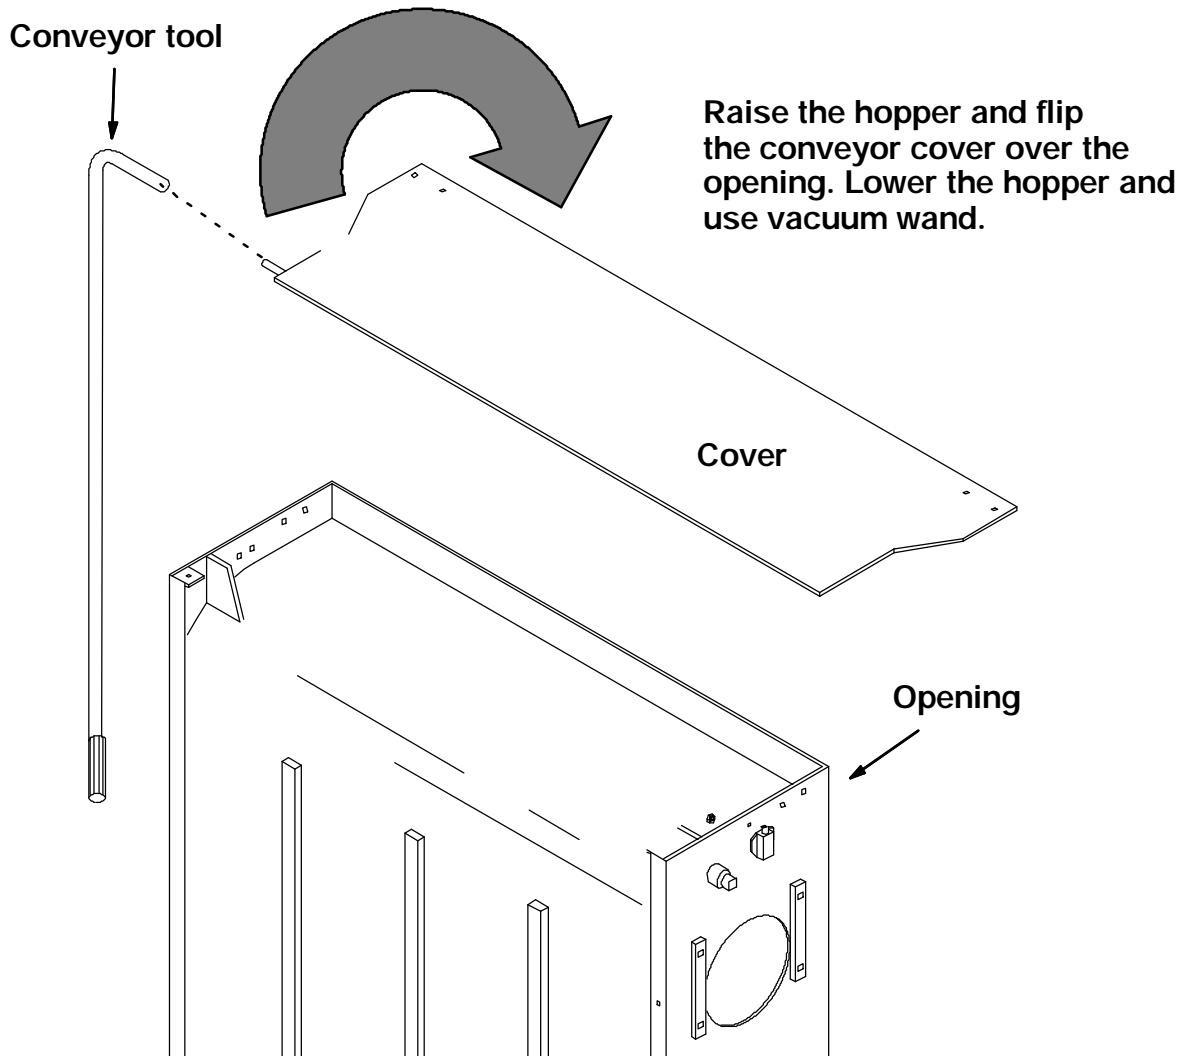

FIG. 6 - Flip The Conveyor Door To Operate Vacuum Wand
(Refer to FIG. 6 and 7)
5. Use the tool (10) to flip the conveyor door over the opening in the top of the conveyor assemble. (Refer to Fig. 6)